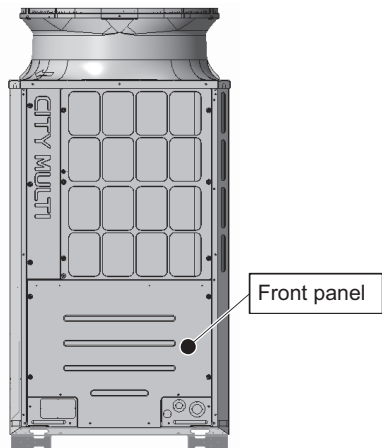

Figure 1
(Figure 1-b shows the unit after the duct was removed.)
[Figure 1]
- (1) Remove the front panel from the unit by unscrewing the eight screws. (See Figure 1.)